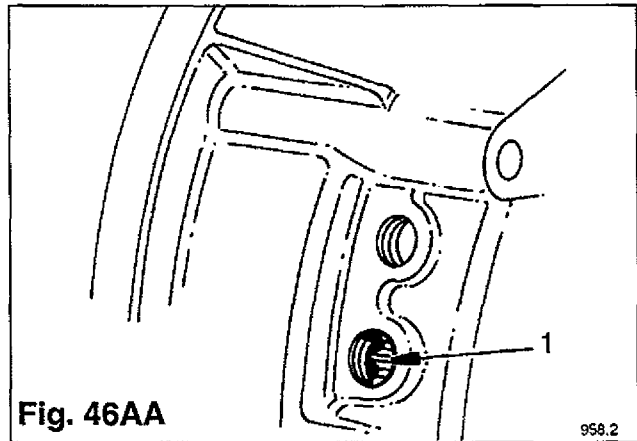

Fig. 46AA
(Fig. 46AA)
The magnetic pick-up is fitted in the flywheel housing, close to the teeth of the starter ring gear (see Fig. 46AA), and should be fitted as follows:-
- 1 Turn the engine until the top or crest of a gear tooth is in the centre of the pick-up head location diameter (see Fig. 46AA).
ELECTRONIC CONTROL PANEL (FIG. 46AA ITEM 2)